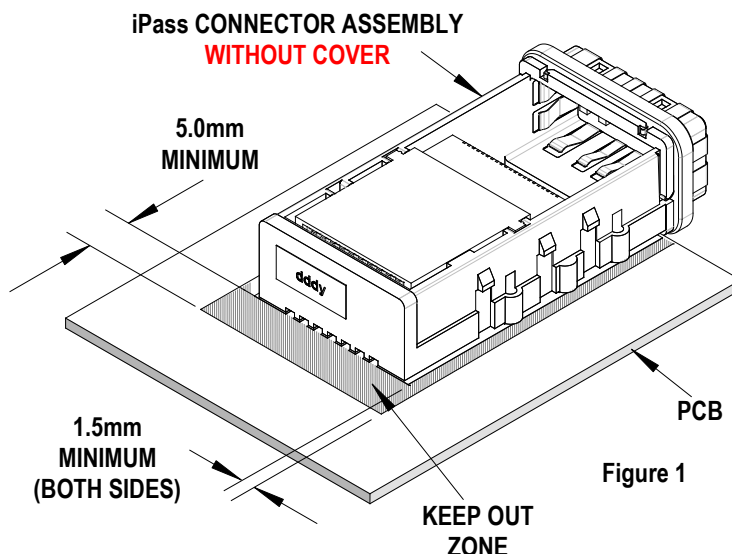

Figure 1
2. These tools require a "Keep Out Zone" around the connector free of components. The rear of the connector should be .197" (5.00mm). The right and left sides should be .059" (1.50mm). See Figure 1.